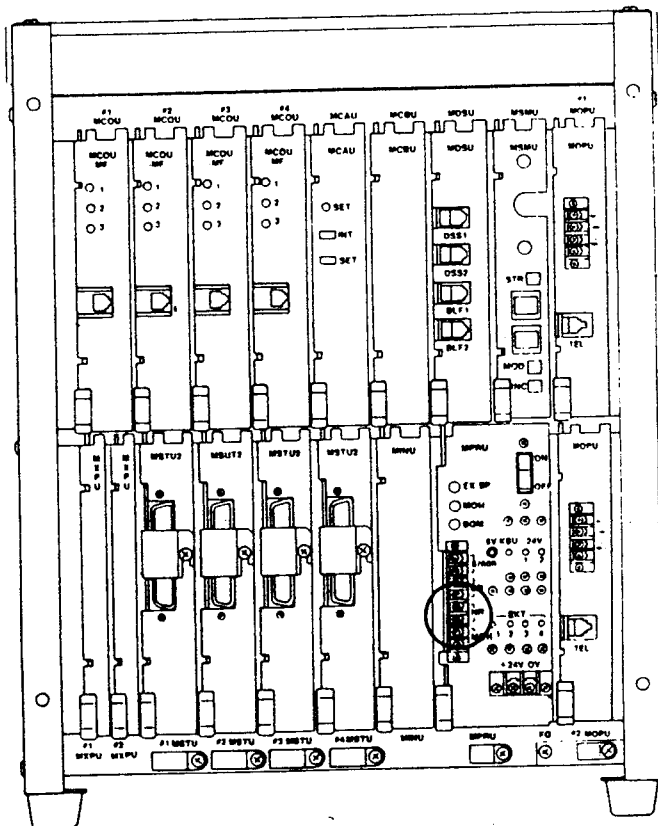

FIGURE 47—NR CONTACTS
12.92 To provide this service, obtain and install the optional NR (K2) relay on the MPRU PCB per Paragraph 05.11. Connect the external device to the NR contacts on the front of the MPRU (see Figure 47).